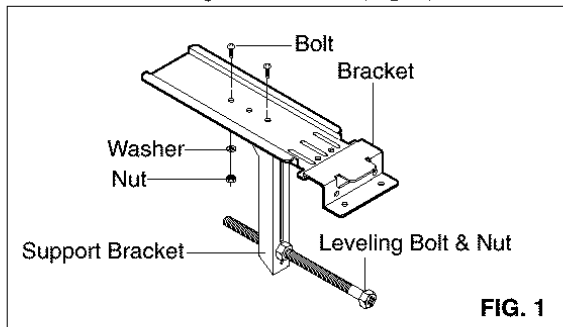

FIG. 1
**1** Loosely attach the Support Bracket to the bottom of Bracket using Bolts, Washer, and Nuts. Attach the Leveling bolt and nut. (Fig. 1)